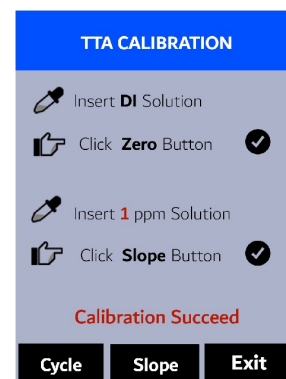

Figure 6.
9. If the calibration succeeds, a checkmark (✔), a "**Calibration Success**" message will appear (Figure 6). Otherwise, a warning message is displayed.
10. Calibration is now complete. Press **Exit** (OK) to return to measurement mode.